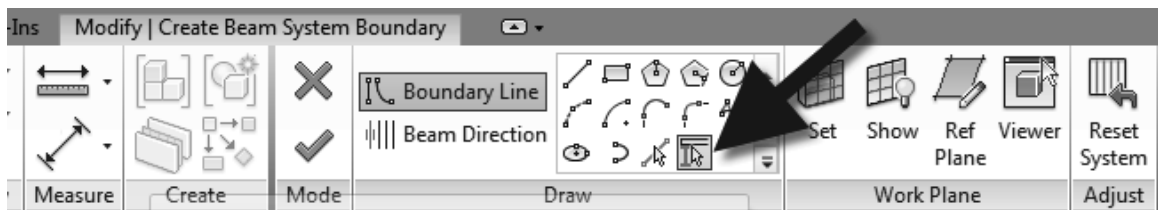

FIGURE 7-4.15 Ribbon: Beam system tool while in Sketch mode
39. Click the *Pick Supports* icon in the *Draw* panel of the *Ribbon* (Figure 7-4.15).